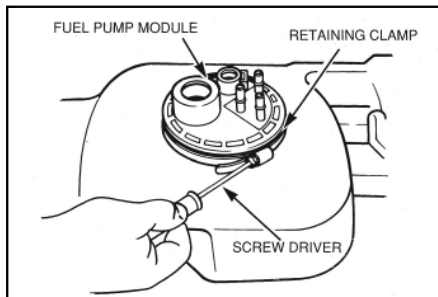

Fig. 1
- B) Because the module is under a spring tension, it will be necessary to hold it down in place while removing the retaining clamp (See Fig. 1). After the clamp is removed gently release the holding pressure and allow the module to pop up.